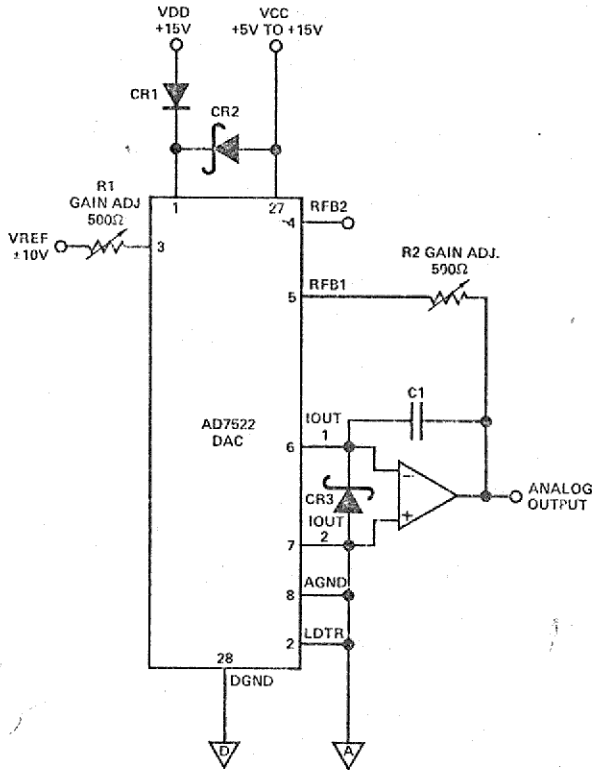
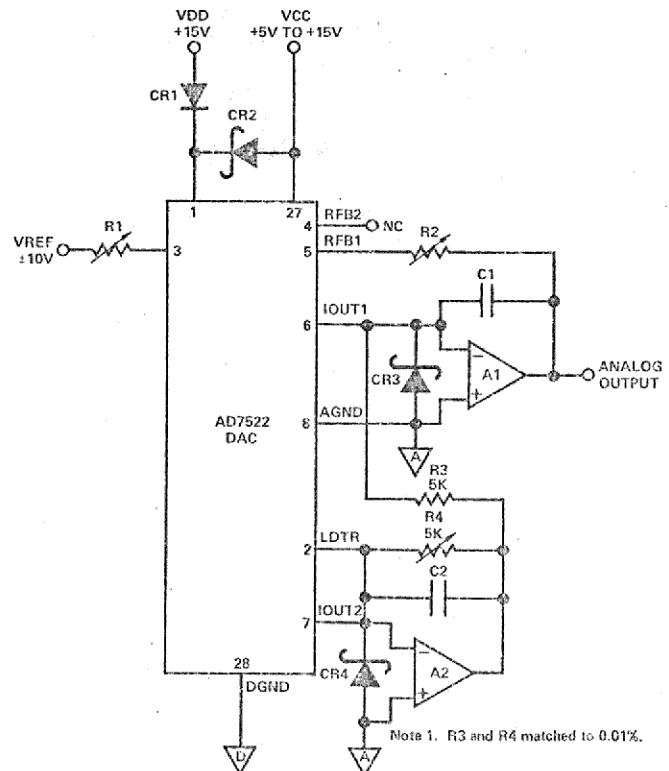

Figure 3. Unipolar Binary Operation (2-Quadrant Multiplication)
Figure 4. Bipolar Operation
Figure 3 shows the analog circuit connections required for unipolar operation. The input code/output voltage relationship is shown in Table 1.
Figure 4 shows the analog circuit connections required for bipolar operation. The input code/output voltage relationship is shown in Table 2.
- CR1 and CR2 on Figures 3 and 4 protect the AD7522 against latch-up if VCC exceeds VDD, and may be omitted if VDD and VCC are driven from the same voltage.
- Diodes CR3 on Figure 3 and CR3 and CR4 on Figure 4 clamp the amplifier junction to -300 mV if they attempt to swing negative during power up or power down. The input structures of some high-speed op amps can supply substantial current under the transient conditions encountered during power sequencing. It is recommended that the PC layout be able to accommodate the diodes.